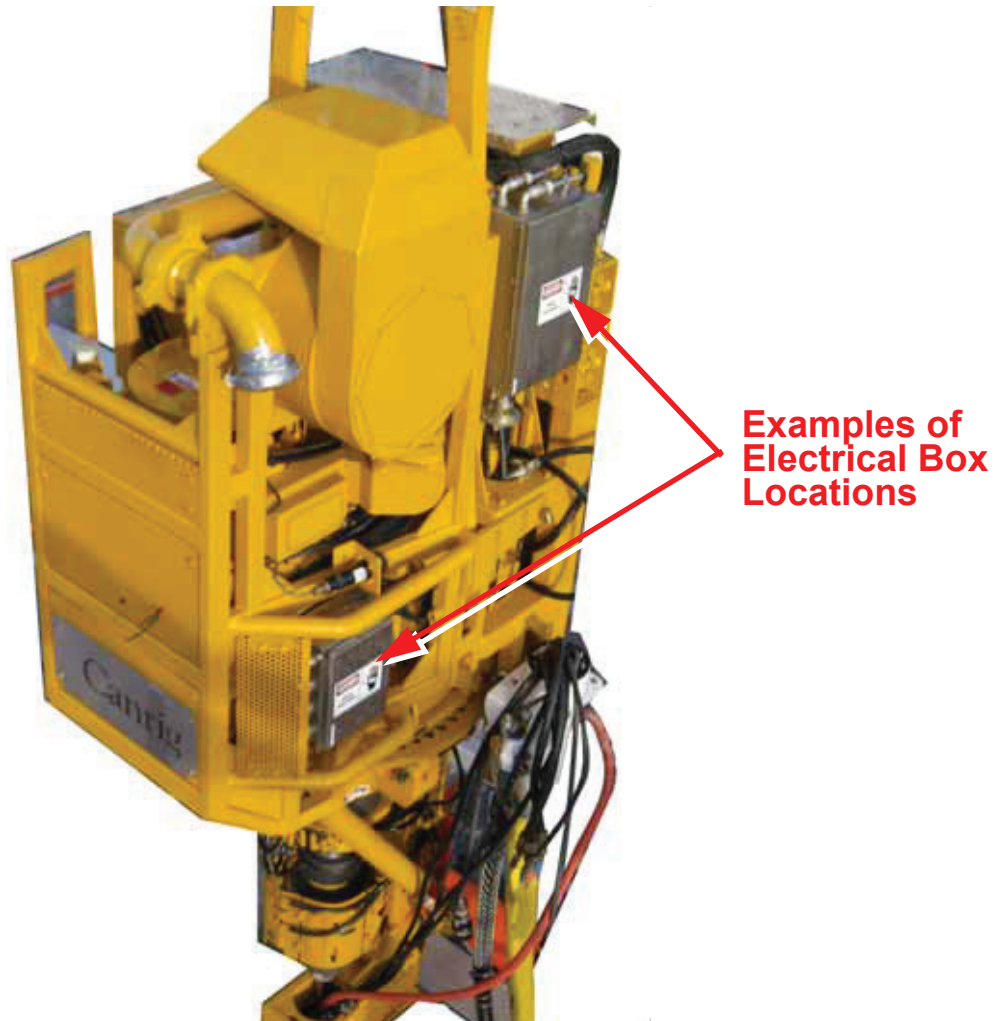

Figure 1: Example electrical box locations.
1. Locate all electrical boxes on the top drive. See Figure 1 for examples.